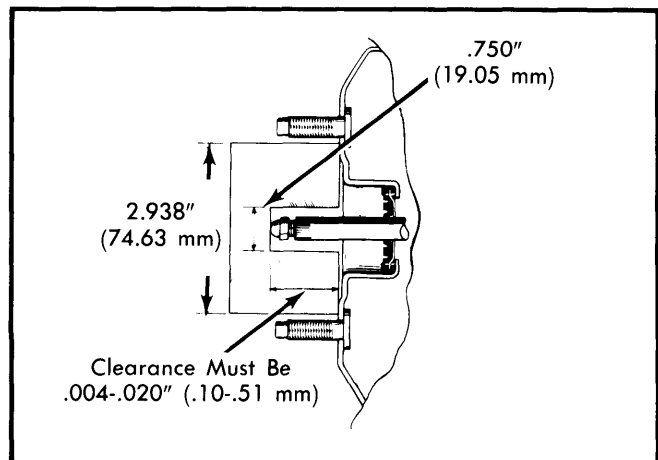

Fig. 6 Adjusting Push Rod Clearance (Dimensions Shown for Making Gauge)
4) Install dust boot, clevis and lock nut. Check push rod clearance with fabricated gauge (See Fig. 6). Clearance should be .004-.020" (.10-.51 mm).